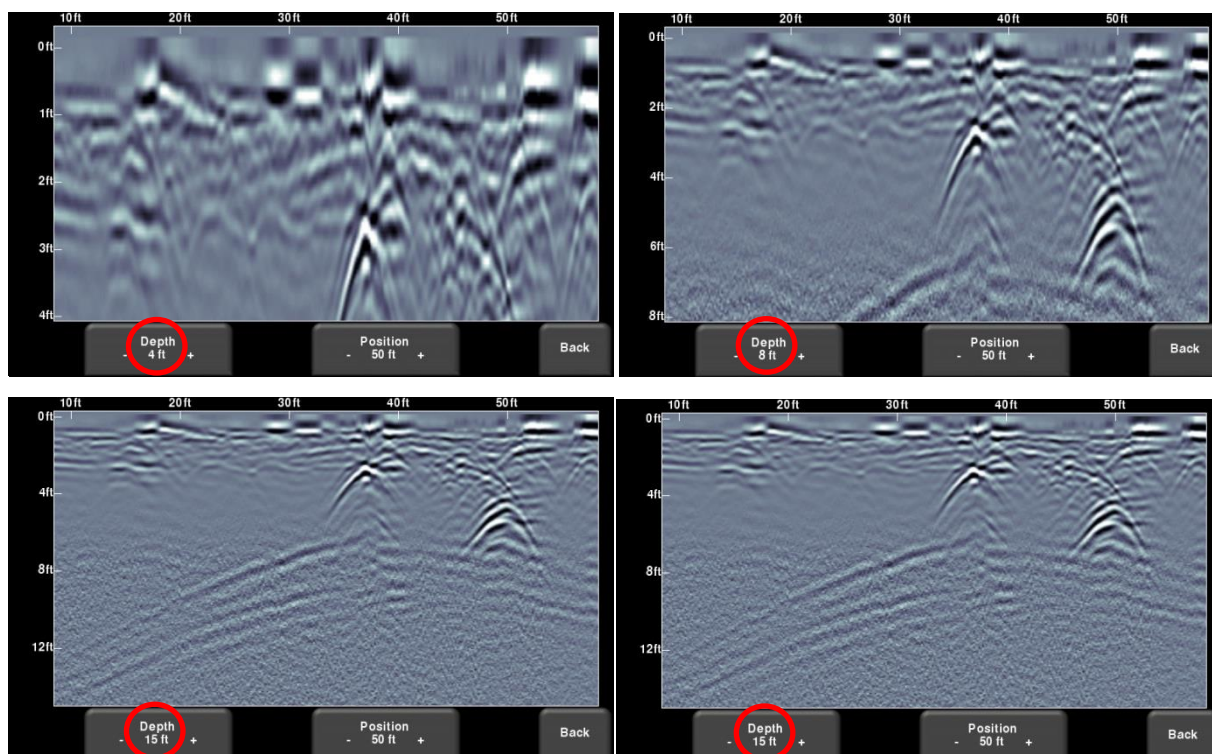

Figure 8-6: Varying displayed depth
- **Depth** – Pressing **+** and **-** under the **Depth** button allows you to change the display depth of the data. This is commonly referred to as the depth window. The pre-set values range from 1m to 8m (3' to 25'), see Figure 8-6.